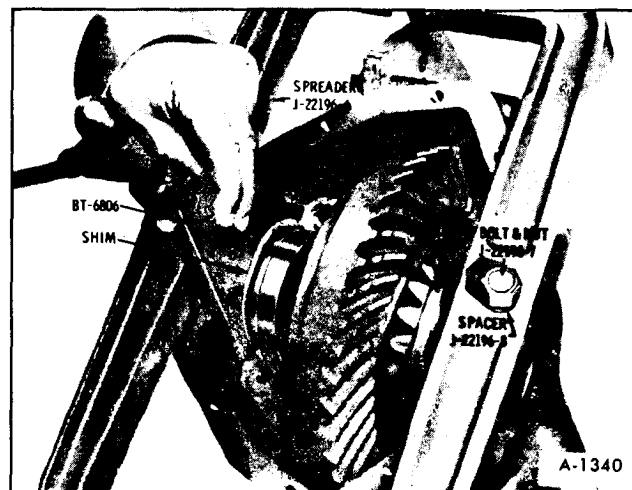

Figure 52—Spreading Housing For Shim Installation
4. Install Spreader J-22196 on housing and spread housing just enough so that shim can be inserted between the spacer and the housing. (figure 52)